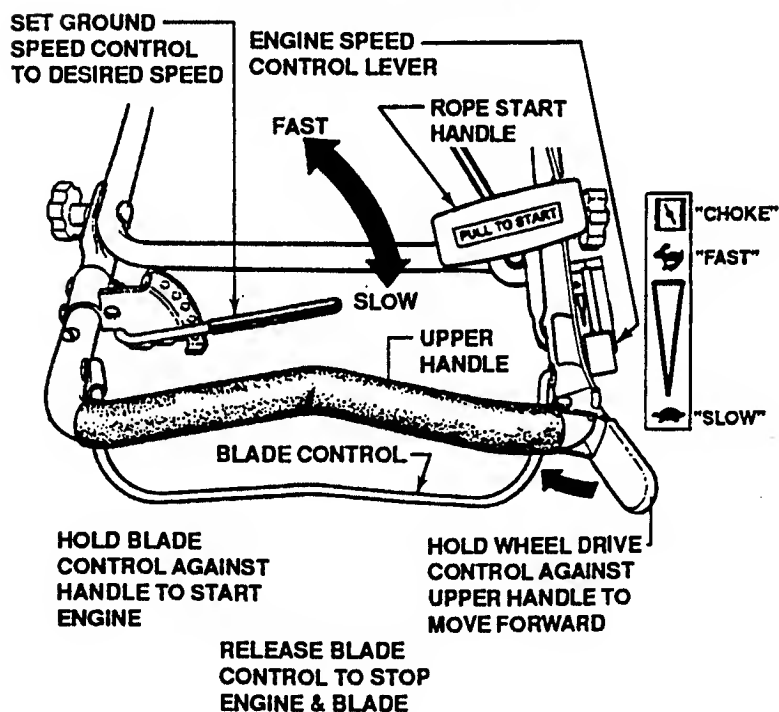

FIGURE 2.1
1. Move engine speed control lever to the "FAST" (⚡) position. Push primer bulb three (3) times. Refer to Figure 2.1.
1. Move the ground speed control lever to the desired position. Refer to Figure 2.1.
Stop forward motion of mower by releasing the wheel drive control. Refer to Figure 2.1.
- A. Stop engine and blade by releasing the blade control. Refer to Figure 2.1.